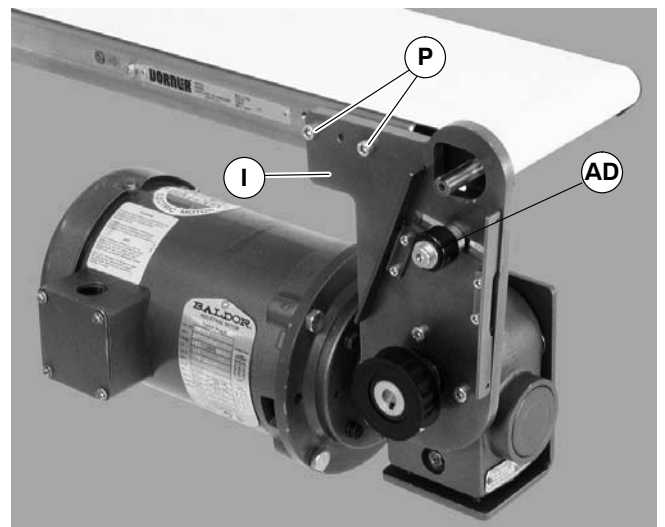
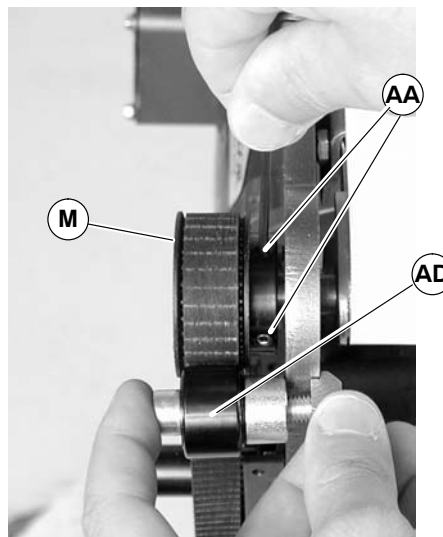

Figure 12
Figure 17
5. Attach bottom mount assembly (I of Figure 12) with screws (P). Tighten to 80 in-lb (9 Nm). Proceed to step 10.
7. Attach bottom mount assembly (I of Figure 12) with two screws (P). Tighten to 80 in-lb (9 Nm).
11. Wrap timing belt (O) around driven pulley (M) and drive pulley (J). Install driven pulley (M) onto conveyor shaft.
12. Remove cam bearing and spacer (AD of Figure 12). Place cam bearing and spacer (AD of Figure 17) next to driven pulley (M). Ensure flanges of driven pulley are aligned with cam bearing. Tighten driven pulley set screws (AA). This will allow for proper belt alignment while conveyor is in use. Install cam bearing and spacer (AD).